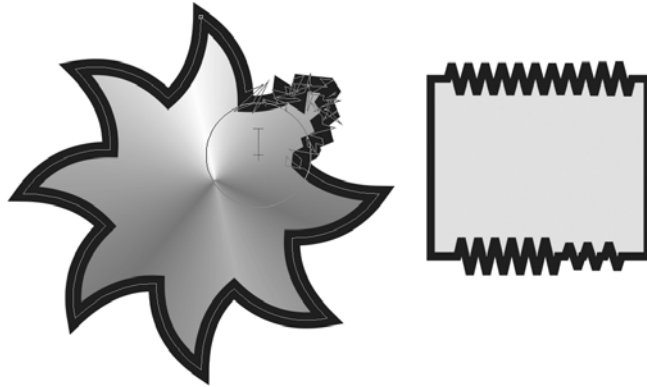

FIGURE 11-11 Use the Roughen brush to achieve object complexity in a fraction of the time needed using other tools.
- **Tilt** This option measures your stroke with the Roughen brush perpendicular to the edge on which you stroke. Therefore, if you have an edge that travels straight up and down, at a 90° setting you'll achieve very little effect. In your experiments with this tool, try 45°, an overall good setting for all angles of edges on most objects. When you roughen an edge that already has roughening applied, you overwrite the previous distortion of that edge. Figure 11-11 shows two examples of the Roughen brush; at left a small nib is used at a low Frequency, and at right a large nib is used at high Frequency.